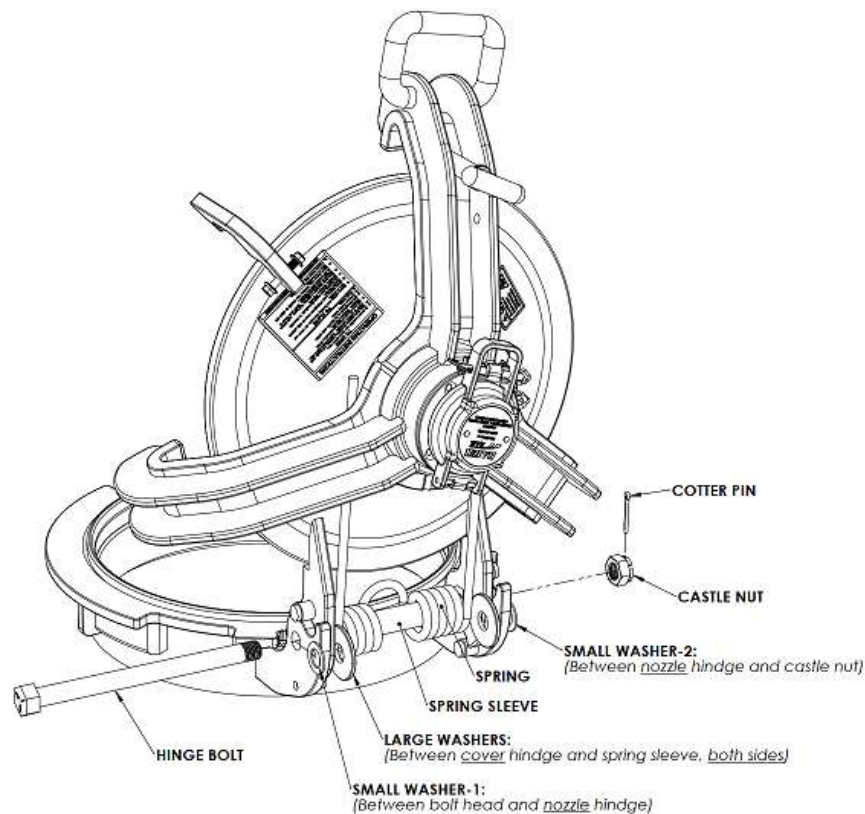

Figure 2 – Lift Assist Spring Orientation and Hinge Hardware Arrangement
- i. The cover assembly should be installed in the open position, when there is no tension on the Lift-assist spring. See Figure 2.
- iv. Note the orientation of the center loop of the spring in figure 2. This orientation is necessary to ensure when the cover assembly is closed, the center loop comes to rest on the nozzle in a manner which provides spring lift assist.
- v. Insert the hinge hardware according to Figure 2, with the bolt inserted from left to right.